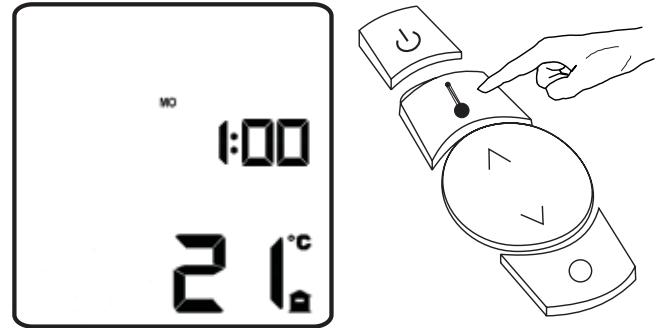

Figure 14
1. Press and hold the power button until the screen backlight turns off. See Figure 14.